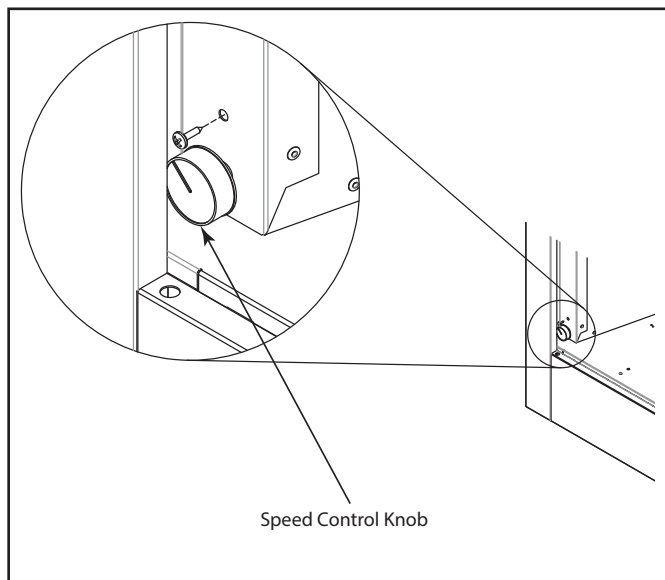

Figure 9
4. As you hold switch assembly in place, secure unit with one (1) screw. See Figure 9.